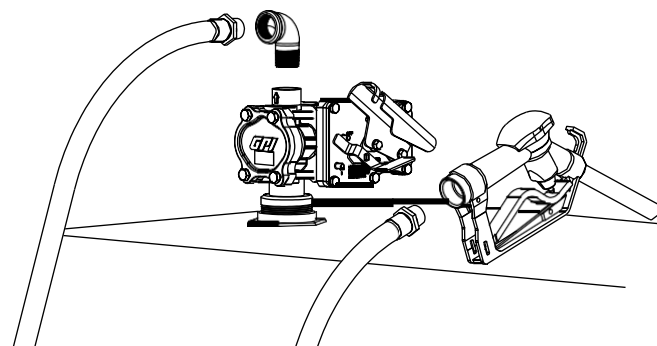

Figure 4
Thread one end of hose into the 90° street elbow and tighten securely. Thread opposite end of hose into nozzle (F) and tighten securely (Figure 4).